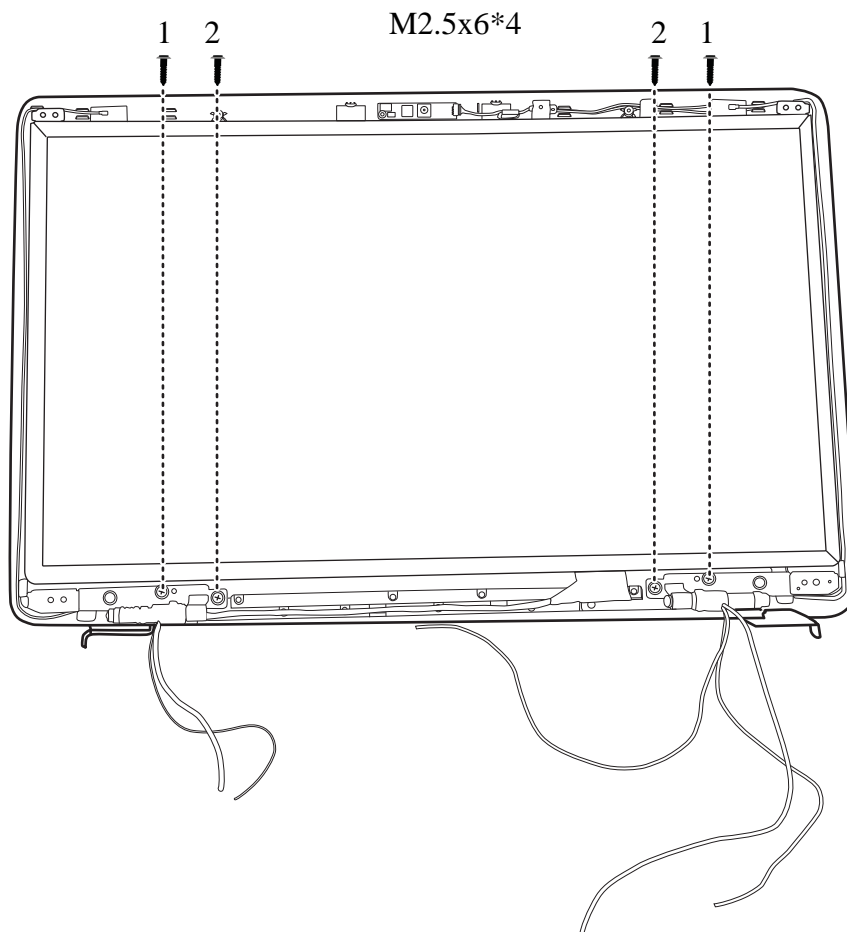

Figure 4.43 Removing the LCD Module from the LCD cover assembly
Remove the LCD module according to the following procedures and Figure 4.43, 4.44 and 4.45.
1. Remove four M2.5x6 screws securing the LCD module according to the sequence indicated in the Figure 4.43.